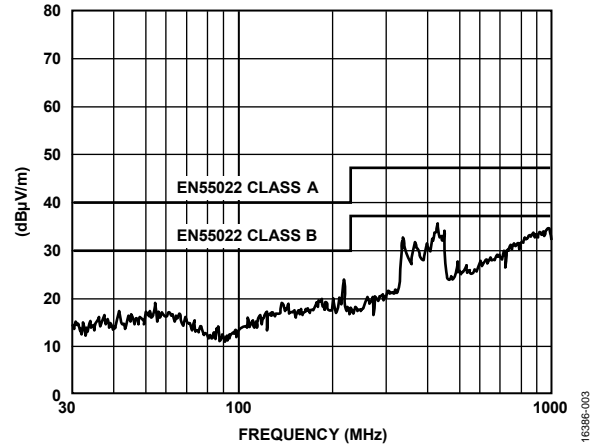
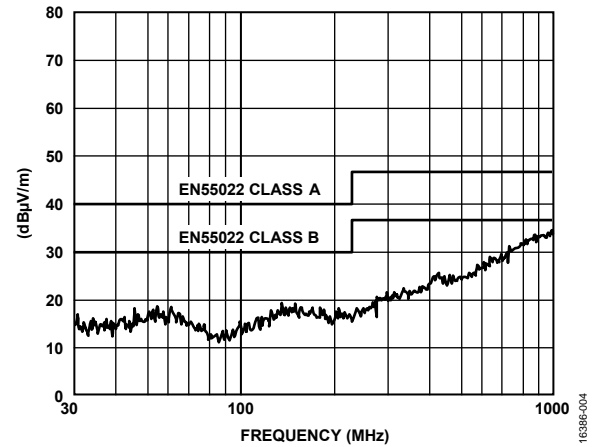

Figure 3. Horizontal Scan from 30 MHz to 1 GHz with 100 mA, 5 V Output
Figure 4. Vertical Scan from 30 MHz to 1 GHz with 100 mA, 5 V Output
The EVAL-ADUM5020EBZ evaluation board is configured and tested with 5.0 V power supplied to the V_{DDP} pin from the ADP7104ACPZ regulator output. The ADP7104ACPZ regulator input is supplied from a standard 9 V battery. V_{ISO} can be loaded with six 300 Ω, 0805 size, SMD resistors in parallel for a total load of 50 Ω or 100mA load at 5 V. Measurements carried out according to the CISPR22/EN55022 Class B standard in a semi anechoic chamber at 10 m from 30 MHz to 1 GHz are shown in Figure 3 and Figure 4. Figure 3 shows the results of the peak horizontal scan (the worst case), and Figure 4 shows the results of the peak vertical scan. Table 3 shows the tabulated quasi peak (QP) results. These results show that the ADuM5020 emissions at -4.0 dB margin are well below CISPR22/EN55022 Class B limits when at 5 V output and 100 mA load on a 2-layer PCB with the use of ferrites.